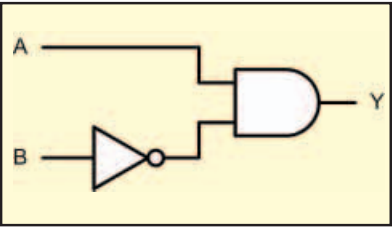

Fig.8.14. See Questions 8.1
- Q8.3. Draw the truth table for the logic gate arrangement shown in Fig.8.14.